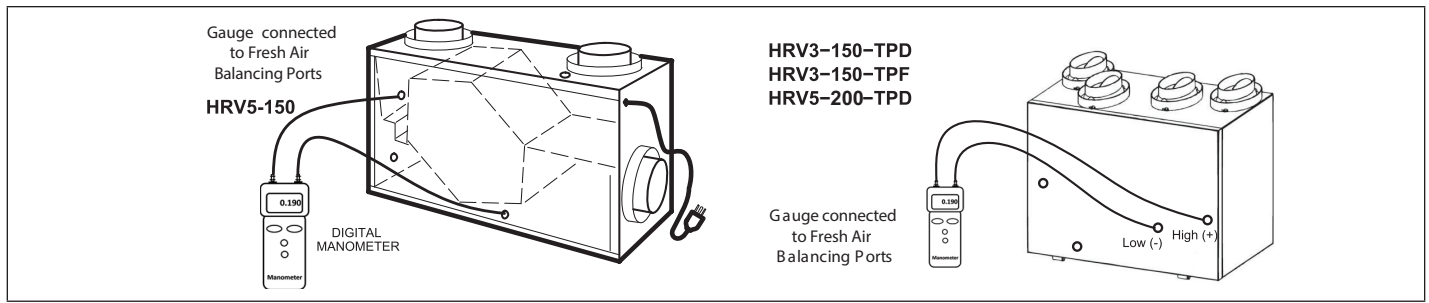

Figure 42. Door Balancing Ports - Fresh Air
6. Measure Fresh air insert the two rubber fittings from the gauge to the FRESH AIR Balancing Ports (see Figure 42 on page 31). Seal the STALE AIR Balancing Ports (upper right and lower left) with tape. Record your reading.